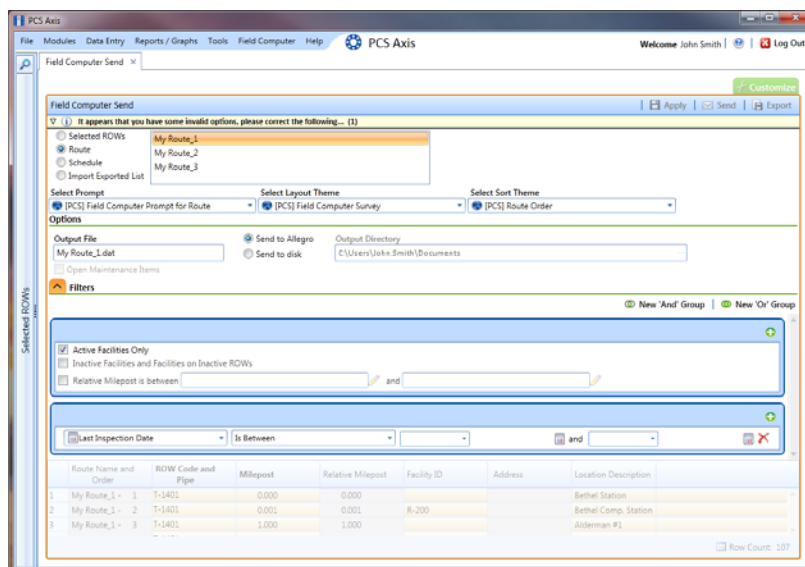

Figure 7-38. New 'And' Filter Group
- 24** If you want to add a new AND filter group, complete the following steps. With an AND filter group, PCS Axis includes a subset of records that meet *all* filter conditions defined for the filter group. Records are filtered in the grid and in the route sent to the Allegro (Figure 7-38).